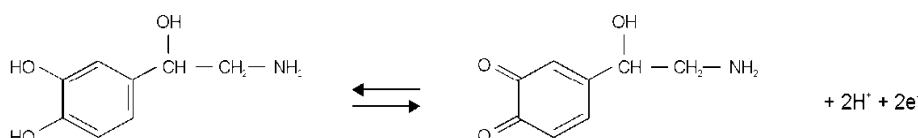

Fig. 26. Oxidation/reduction reaction of norepinephrine.
An example of an electrochemical reaction is shown in Fig. 26, norepinephrine is converted into a quinone by oxidation at the WE. Two electrons are transferred at the WE resulting in an electrical current that is amplified by the controller.
The mechanism of the REDOX reactions is the same for the ROXY applications. The potential is the reactions driving force, but the mass spectrometry (MS) is applied for the oxidation or reduction products detection. An example of an electrochemical reaction is shown in Fig. 26, norepinephrine is converted into a quinone by oxidation at the WE. Two electrons are transferred at the WE resulting in an electrical current that is amplified by the controller. The norepinephrine and its quinone product itself will be detected in mass spectrometer in ROXY applications.
A hydrodynamic voltammogram is constructed when the pure analyte is not available and separation over an analytical column is required. Simply, the analyte is separated over the column and detected in the electrochemical cell with different potentials applied. To construct hydrodynamic voltammogram the peak heights are plotted vs. the potential (Fig. 26). Furthermore, under real chromatographic conditions reliable information about the S/N ratio is obtained.